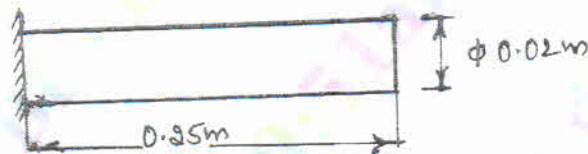

Fig.Q.10(b)
b. Evaluate eigen values of longitudinal vibration of the constrained uniform circular bar shown in Fig.Q.10(b). Take minimum two elements and $E = 210 \text{ GPa}$ and $\rho = 7860 \text{ kg/m}^3$. (10 Marks)